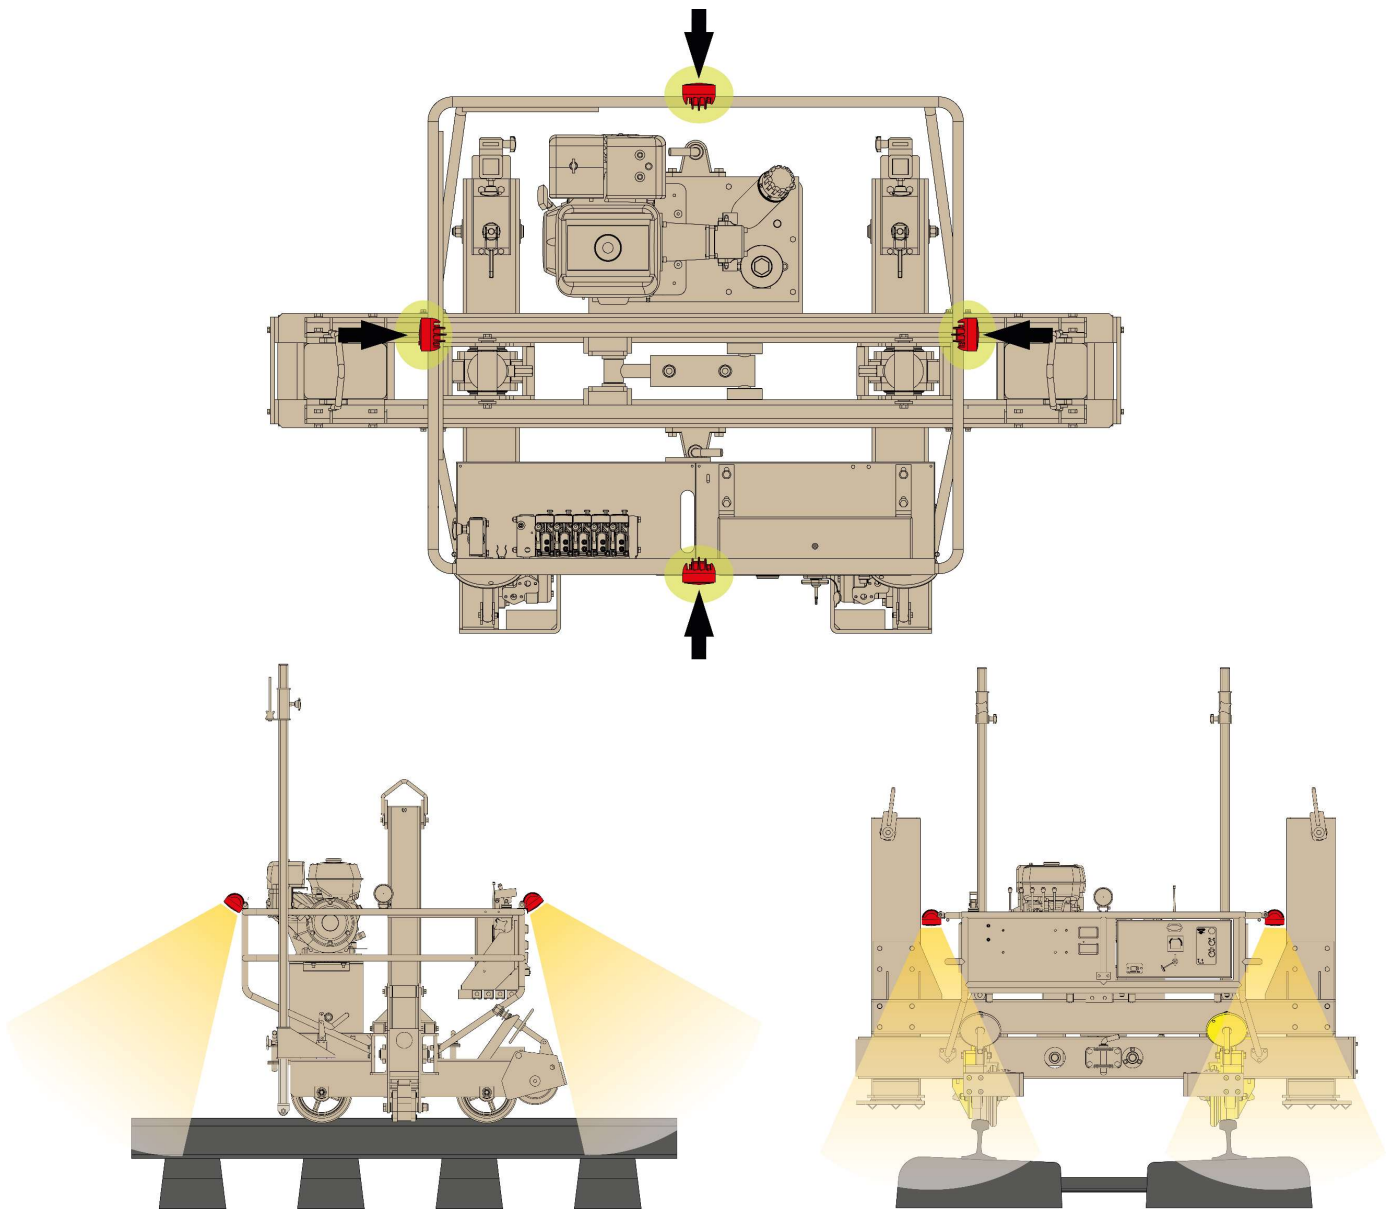

Figure 19
- The machine can be equipped with lights operated from the dashboard (Rep.5 Figure 19 page 33).